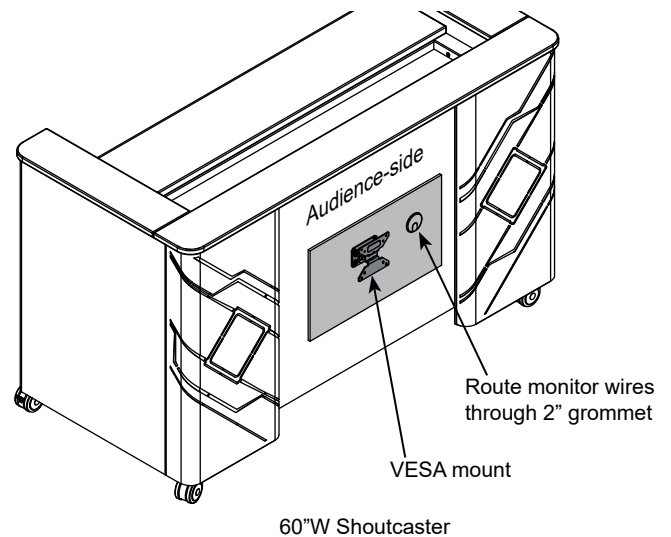

Figure 2.3
1. From behind the audience-side panel, use a 3/16" drill bit to carefully drill through the panel at the (4) corresponding pre-drilled pilot hole locations. Drill slowly or use masking tape to minimize chip-out. **Figure 2.3.**
3. Attach the VESA mount / monitor assembly to the audience-side panel with the (4) 10-24 x 1.5" PHM screws. A second person may be necessary to help with hole alignment.